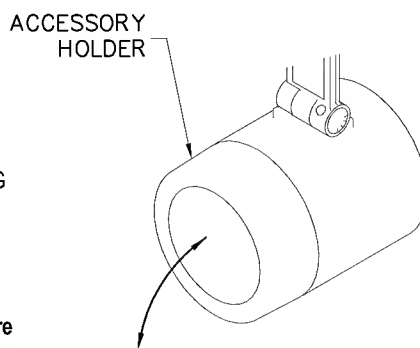

FIG. 5
2. Open ACCESSORY HOLDER by pulling forward (FIG. 5).
1. Snap ACCESSORY HOLDER on Luminaire (FIG 5).